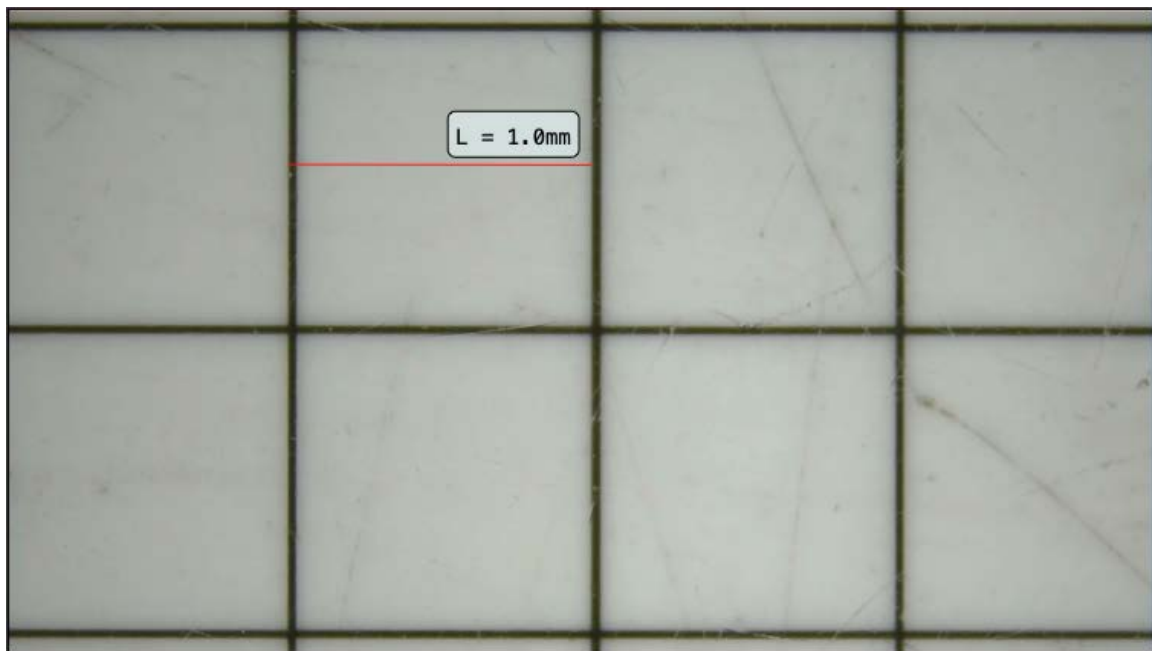

Figure 5-3 Line measurement example
- (1) Line: This tool  can be used when the length of an object to be observed is simply measured. To measure the width of the rectangle on the PCB board, you can select the straight line mode on the right and draw the straight line length (L: Length). The resulting line length is  $L=1.00\text{mm}$ , as shown in Figure 5-3 .